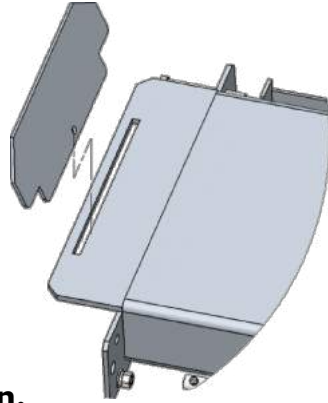

Fig.29
O. Install front wheel platform baffles(See Fig.29)